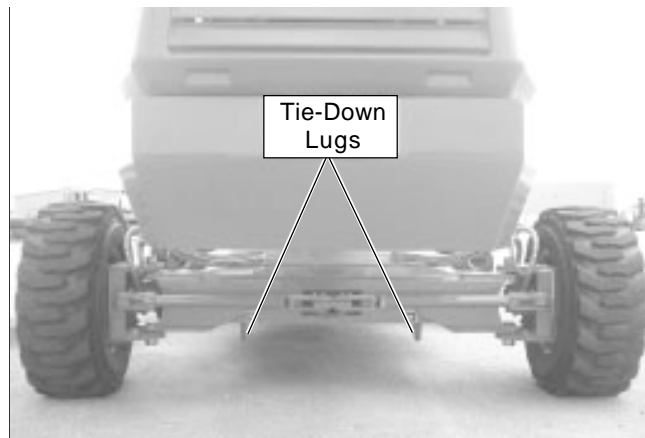

Figure 9.2 – Front Tie-Down Lugs
5. Attach the winch to the tie-down lugs (refer to Figure 9.2) on the front of the chassis.